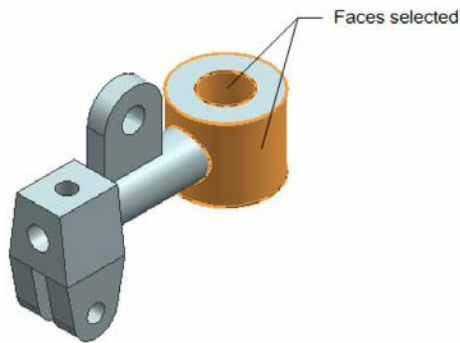

Figure 13-120 Faces selected
- Increase the length of the circular rod using the **Move Face** tool, refer to Figure 13-120.
3. Select the outer face and the inner face of the cylinder, refer to Figure 13-120.